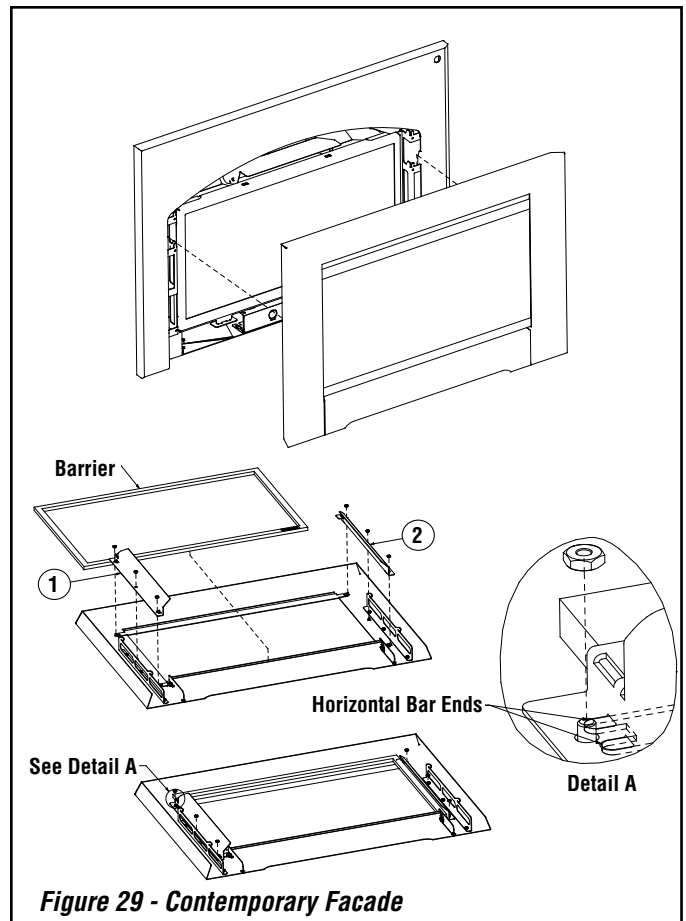

Figure 29 - Contemporary Facade
Contemporary Facade (see Figure 29)
2. Place sight obstructers back over the threaded studs taking note that the upper and lower horizontal bar ends line up with grooves in sight obstructers (see Detail A in Figure 29).